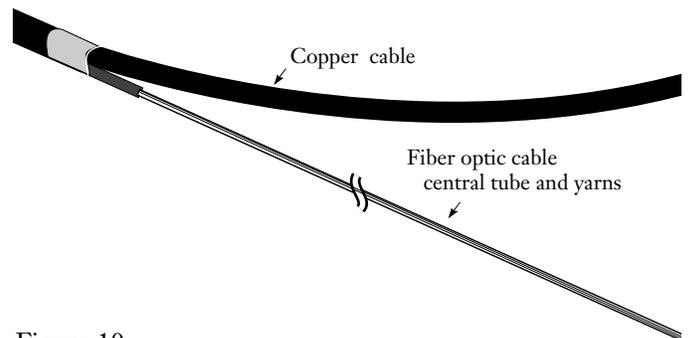

Figure 10
5.16 Remove the cable sheath and expose the central tube in accordance with SRP-004-083, *Sheath Removal Procedure for FREEDM™/LST Cables* (Figure 10).